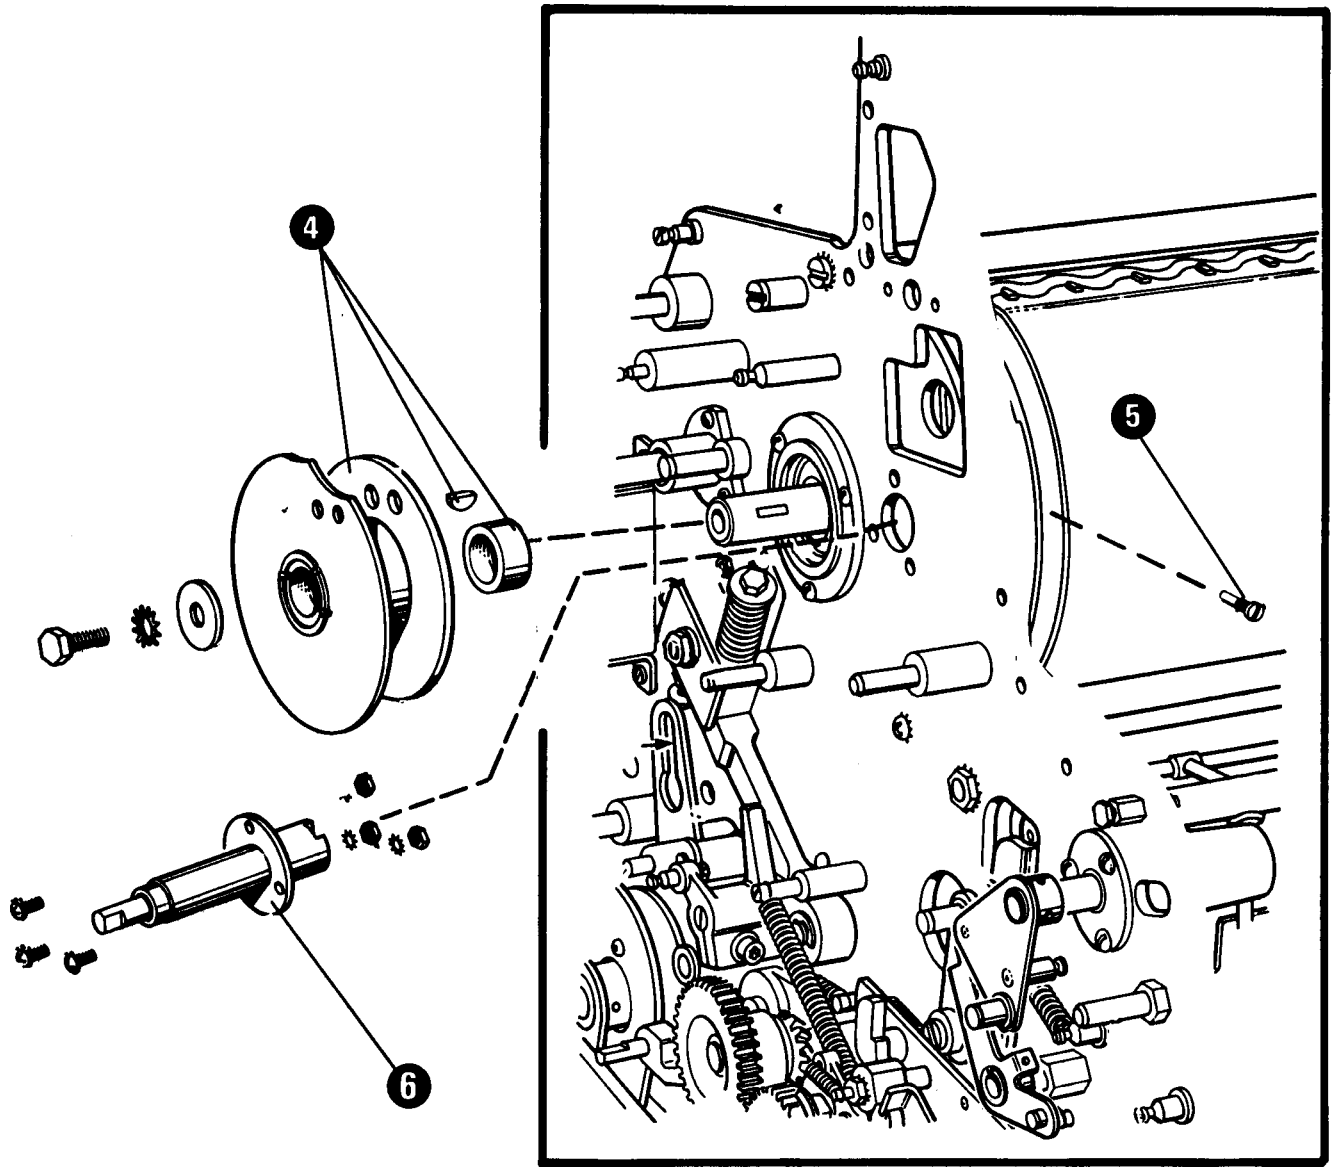

Figure 74 - Operator Side Cam, Key and Collar
6. Remove the raise-lower plunger by removing the screws and nuts shown in Figure 74.